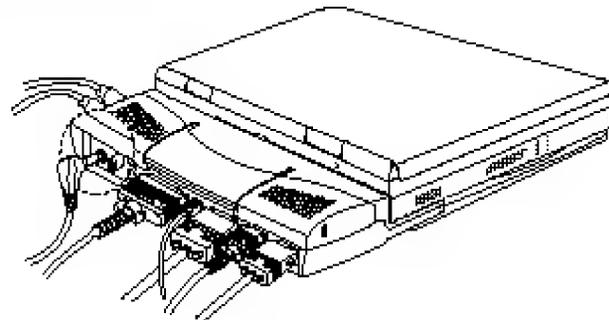

Figure 35. Connecting the AC Adapter
7. Connect the AC adapter to the power cord connector before turning the computer on (Figure 35).